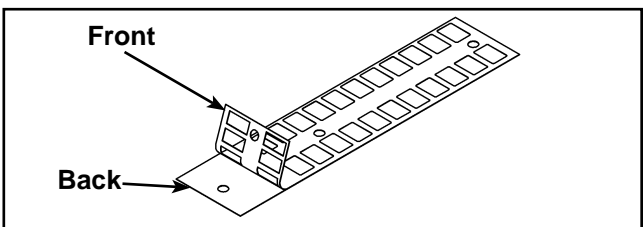

Figure 17
- Slowly and carefully peel off back side of decal. See Figure 17. **NOTE:** When peeling off back cover, make sure that the decals remain attached to the front sticker.